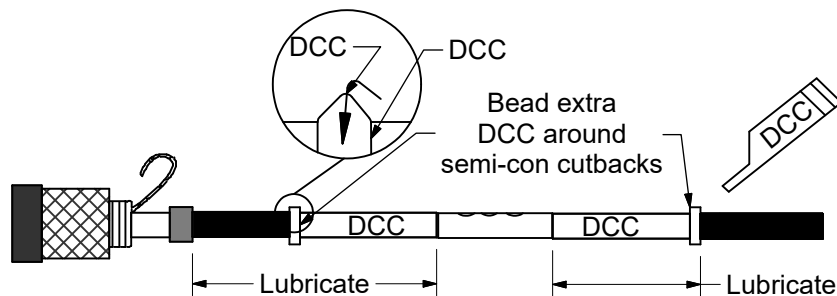

**Figure 5**
- C. Install several turns of marking tape onto the cable semi-con 9 1/4" from the center of the connector as shown in Figure 5. This tape will be used as a guide for positioning the splice body. The marking tape is to be installed on the same cable that the splice body is on.